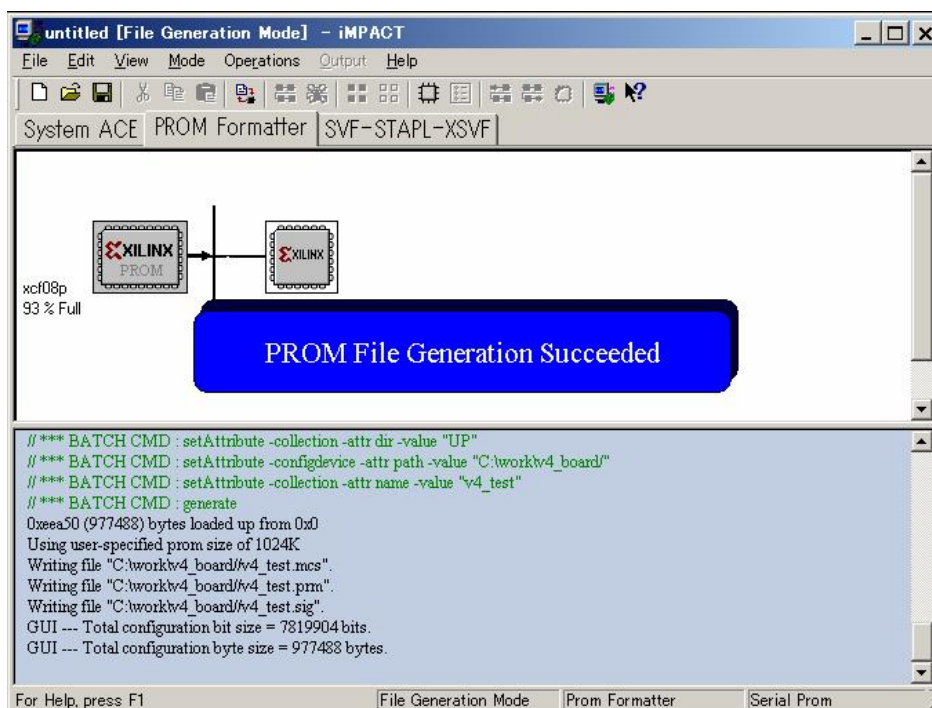

Figure.26
12) When a MCS file is successfully created, a “PROM File Generation Succeeded” character appears as shown in Figure.26.